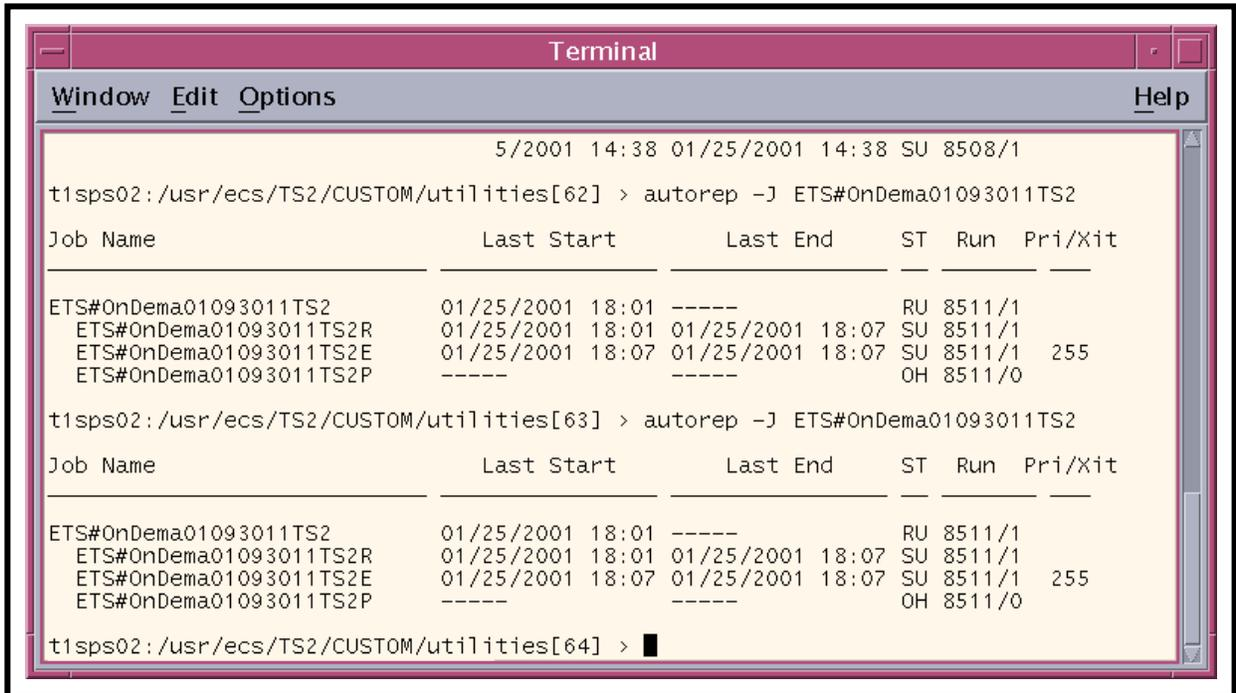

Figure 78. Sample Job Activity Report
The Production Monitor reviews the job activity report using the AutoSys **autorep** command. The **autorep** command reports information about a job, jobs within boxes, machines, and machine status. Figure 78 shows a sample job activity report.
- The **Job Activity Report** (Figure 78) is displayed.